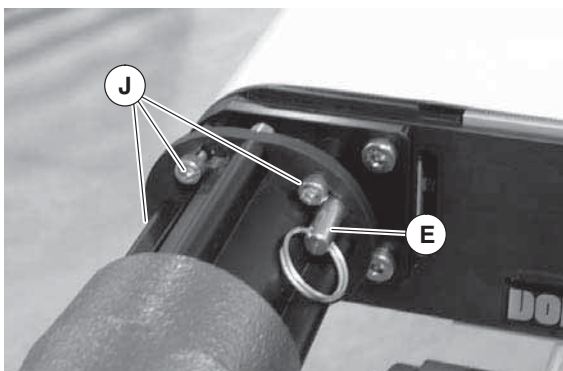

Figure 9
2. Loosen the four (4) coupling lock screws (Figure 9, item J), remove anti rotation pin (E). Rotate and remove gearmotor assembly.